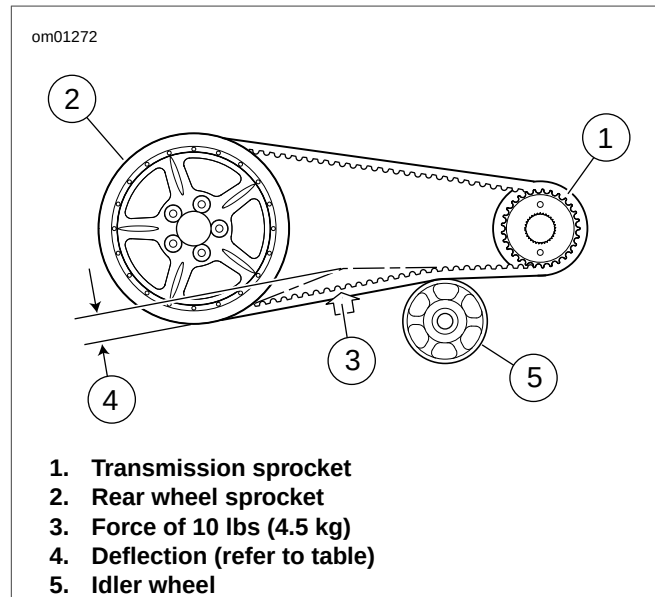

Figure 1-56. Gauging Belt Deflection: XR 1200 Model
- a. See Figure 1-56. On XR 1200 model, fit BELT TENSION GAUGE half-way between the idler wheel and rear sprocket.